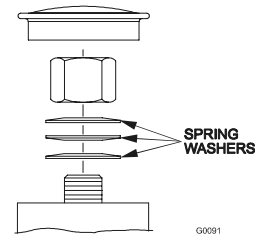

**FIGURE 15**
- f) If adjustments are necessary, four socket head 5/16-18 x 1-1/4 screws have been provided in the literature bag. Install these screws into the deck lift arms until they touch the hex head deck chain screws. Loosen the top chain screws in slots in the deck lift arms (See Figure 15). Turn the socket head screws to move